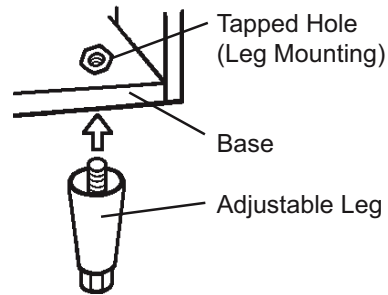

Fig. 3
- 5) When installing the unit with legs on the bottom, use the four accessory legs adjustable from 6" (15.2 cm) to 7" (17.8 cm). Screw the legs tightly into the tapped holes in the base (see Fig. 3). Handle the icemaker carefully not to damage the exterior.